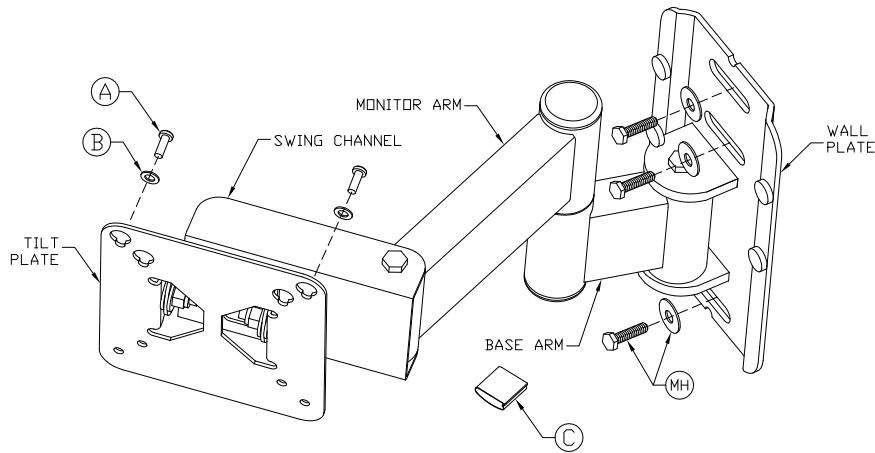

Figure 1
2. Mount the Wall Plate to the wall in the desired location. See Figure 1.